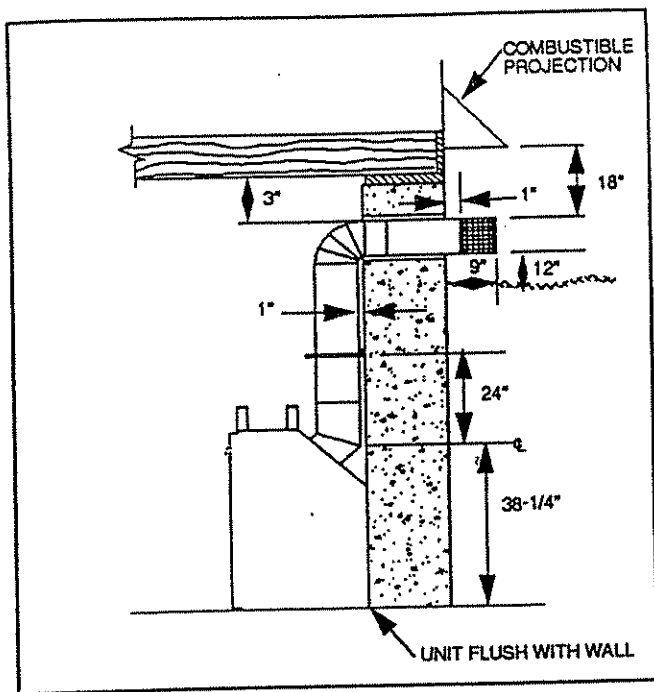
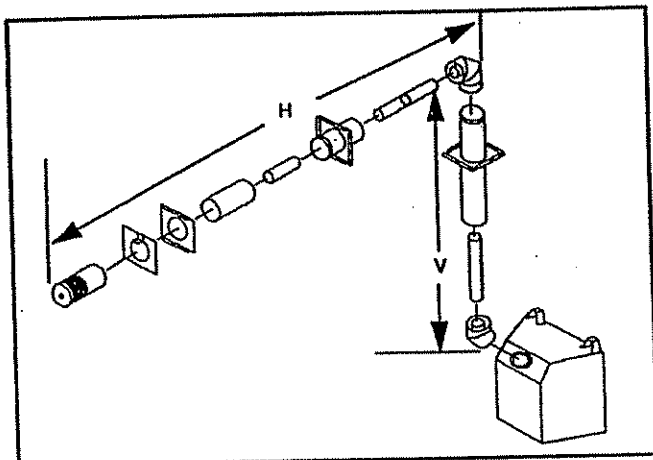

Fig. 5. Basement installation (4" — 13" wall thickness).
Fig. 6. One (1) 90° elbows.
Figure 5 and Table 2 lists examples of possible venting systems using one (1) 90° elbow. V is listed as minimum vertical dimensions and H is listed as maximum horizontal dimensions. Other combinations of a one (1) 90° elbow system must have at least 1 foot vertical rise for each 5 feet of horizontal run. The maximum vertical and horizontal distances for one (1) 90° elbow as shown in Figure 6 are 20 feet and 25 feet respectively. Vertical dimensions are based on centerline to centerline of pipe. Horizontal dimensions are based on centerline of pipe to end of termination.